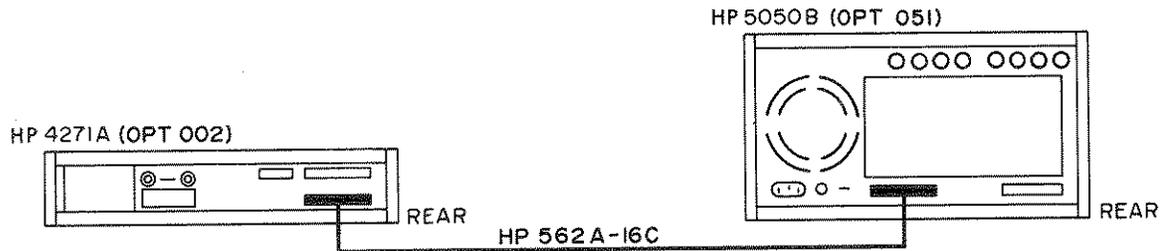

Figure 3-12. C/L BCD OUTPUT (OPT 002).
- c. Refer to Figure 3-12 for typical recording connection configurations. As shown in (1) and (3) of the figure, recording is limited to that supplied by option 002 of the 4271A. In (2), option 003 can be added to 4271A to record additional data. Then the 5050B OPT. 050 recorder can record the information carried from DATA